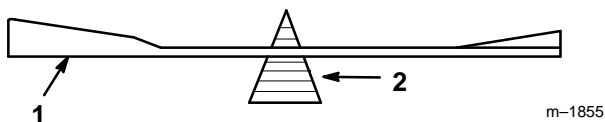

Figure 23
2. Check the balance of the blade by putting it on a blade balancer (Fig. 23). If the blade stays in a horizontal position, the blade is balanced and can be used. If the blade is not balanced, file some metal off the end of the sail area only (Fig. 20). Repeat this procedure until the blade is balanced.